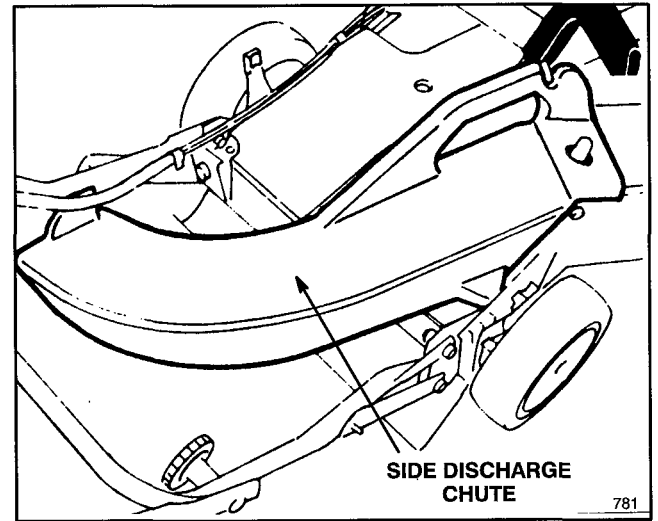

Figure 36
3. Side Discharge Kit, Model No. 59189—Install discharge tunnel and rear mounted side discharge chute to convert the Recycler® II Super Pro® mower to a side discharge mower (Fig. 36). Includes discharge tunnel plug.